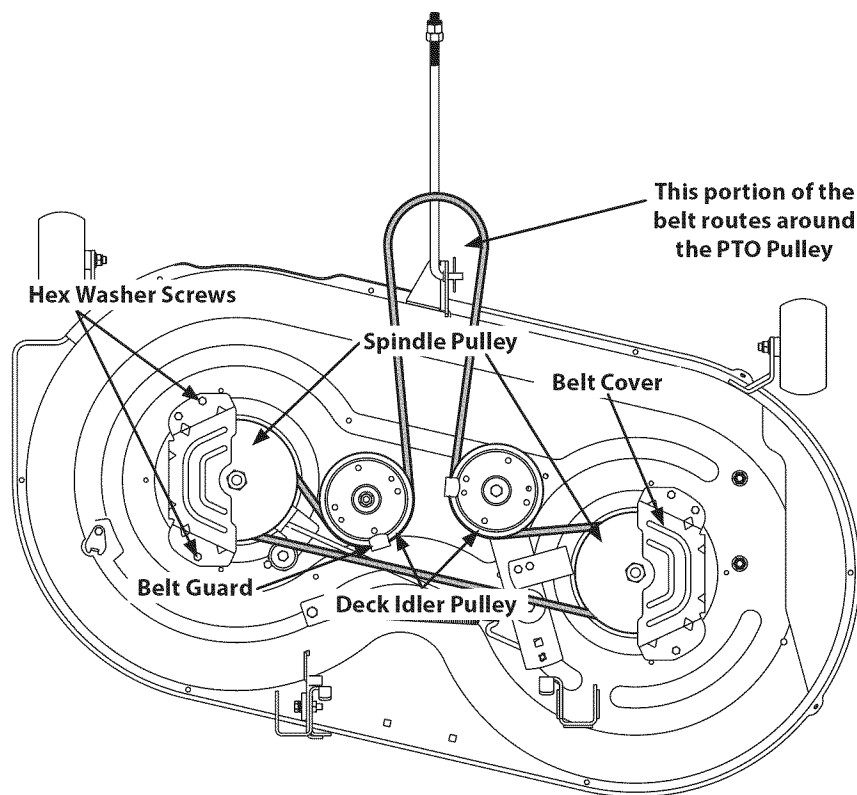

Figure 30
1. Remove the belt covers from the spindle pulleys by removing the hex screws that fasten the covers to the deck. See Figure 30.
3. Carefully remove the deck belt from around the two spindle pulleys and the two deck idler pulleys. See Figure 30.
4. To place the new belt, begin by routing the belt around the two outer spindle pulleys as shown in Figure 30.
5. Then route the belt around the two deck idler pulleys as shown in Figure 30.
8. Re-install the deck, making sure the belt remains routed around the pulleys as instructed. The complete belt routing is shown in Figure 30.